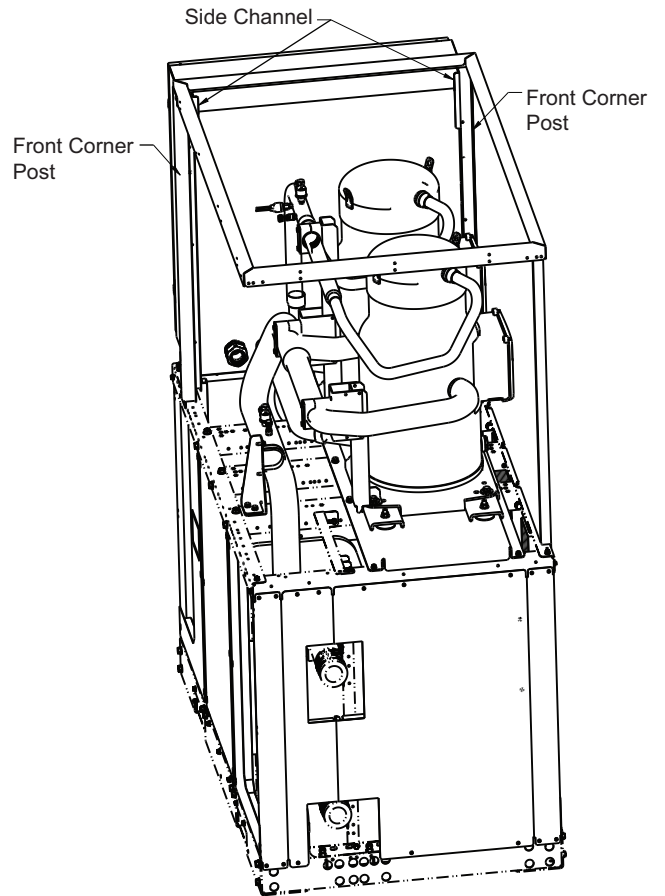

Fig. 5 — Channels and Posts (Front)
4. Install side and front/back top channels (Fig. 1, Items 4 and 8) inside the rear panels installed in Step 3 above. See Fig. 5 and 6 for channel and post locations.
NOTE: Corner panels replace gussets using same screw holes. See Fig. 5 and 6 for channel and post locations.